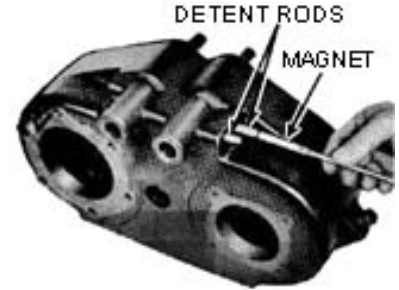

Figure 9 – Removing Detent Rods
20. Remove the detent rods (Fig. 9).
20A. With the later J-Shift case, you may notice that there is only ONE detent rod (Figures 9 and 18). While there may be debate over the existence of one or two rods, several J-Shift case owners have reported that they have only one rod. This single rod will be removed from the plughole at the rear of the left side, passing through to the single right-hand plughole.